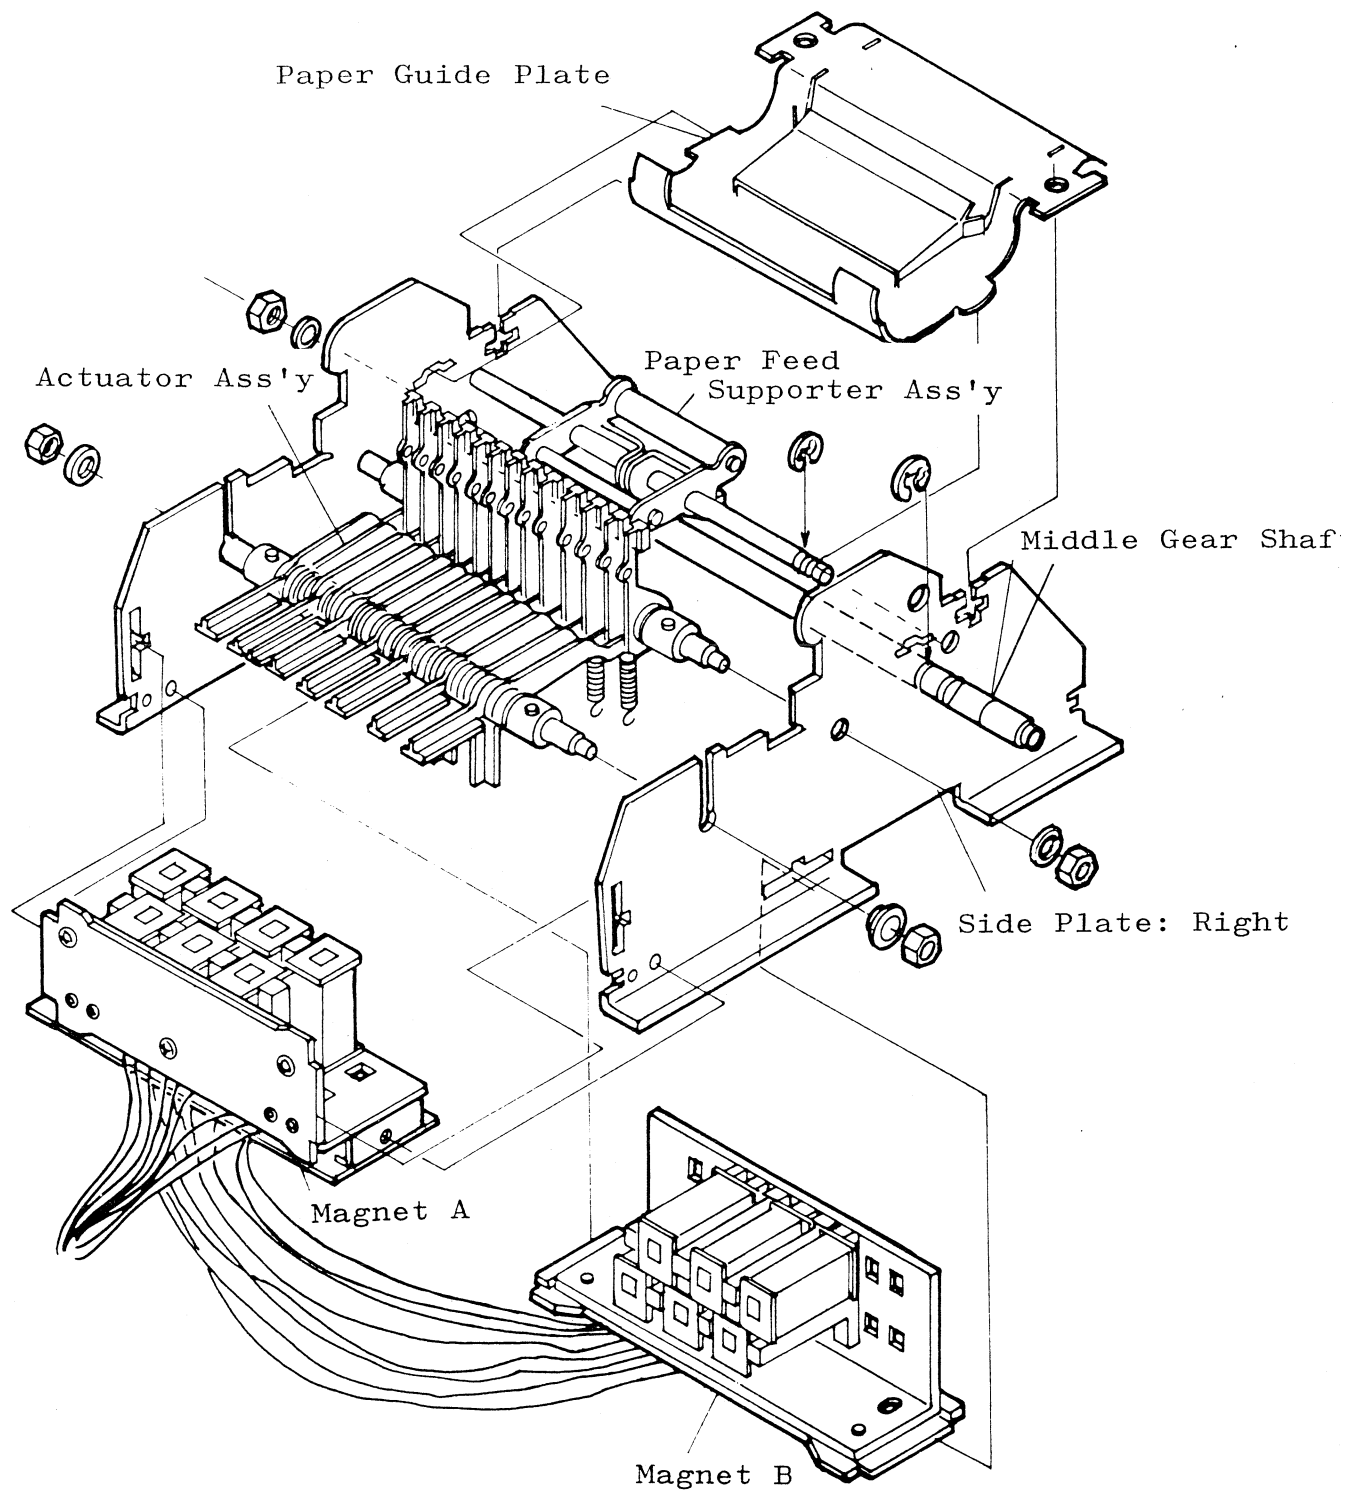

Fig. 1
- 7 - 3       Remove 1 nut and washer at the actuator shaft (Fig. 1).